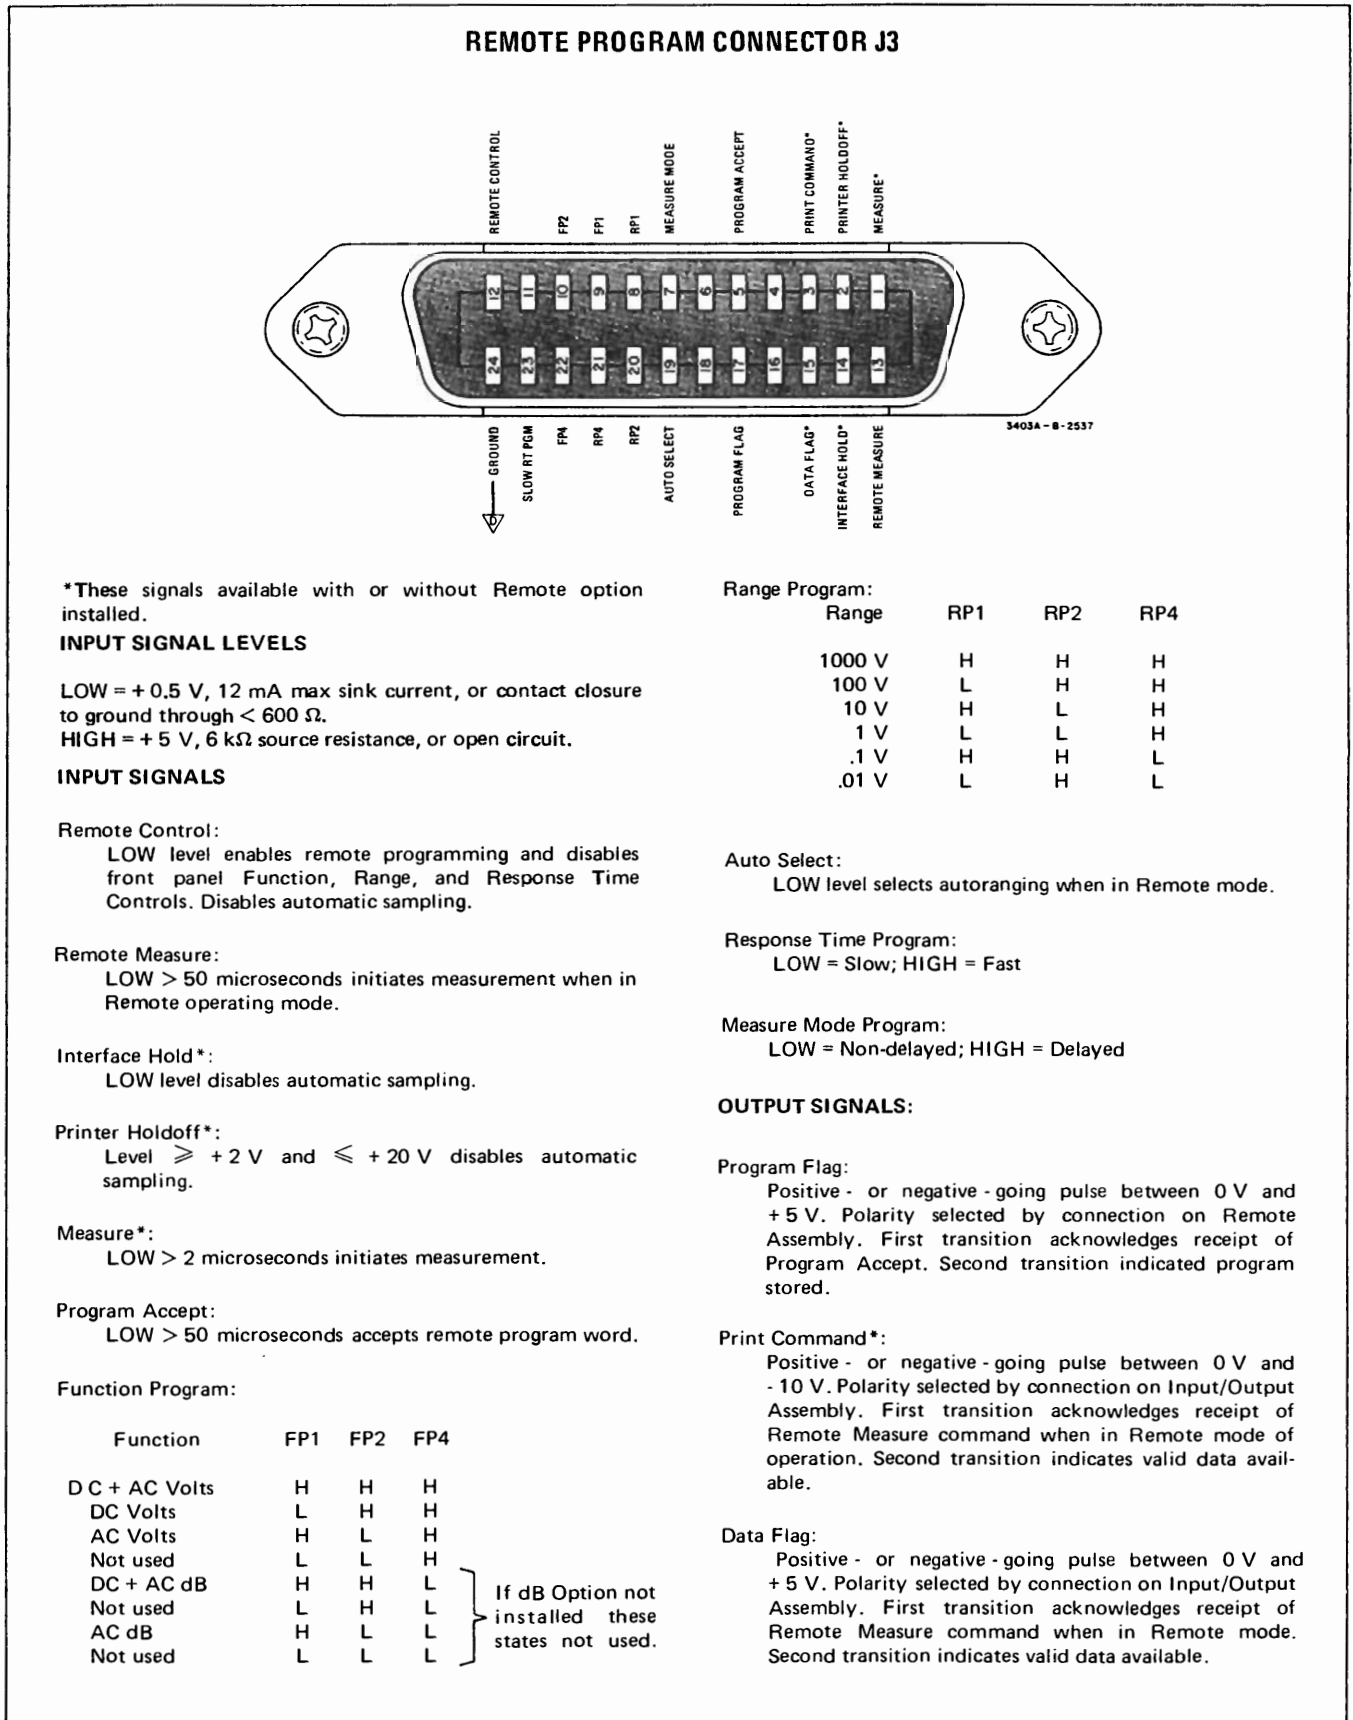

Figure 2-4. Remote Program Connector J3.
2-29. Option 003 permits programming of function, range, autorange and response time. Lines are also provided for remote control of sampling. Figure 2-4 shows the Remote Program Connector J3 and gives required interface information. The mating connector for J3 is -hp- Part No. 1251-0293 (Amphenol No. 57-30240).
3-24. **Non-Delayed Measure Mode.** The non-delayed mode must be programmed by a LOW signal at the Measure Mode connection, J3 pin 7. See Figure 2-4 and Paragraph 3-51. In this mode of operation, a Remote Measure command (LOW > 50 μs at the Remote Measure input of either J2 or J3) initiates a measurement within a few microseconds.
3-25. **Delayed Measure Mode.** A HIGH signal (or open circuit) at the Measure Mode connection, J3 Pin 7, selects the delayed measure mode of operation. In this mode, the internal Measure command (A141C11 pin 8) is delayed for a length of time determined by the 3403C response time programmed. See Figure 2-4 and Paragraph 3-51. If Fast
**3-39. Coded Data.** The Model 3403C equipped with a Digital Output option provides 7 columns of 1-2-4-8 coded BCD information, LOW state true. LOW = < +0.5 V, 12 mA maximum sink current; HIGH = +5 V, 6 kΩ source resistance. In addition to measurement magnitude, coded output information includes range, function, polarity, and out-of-range conditions. Figure 2-4 shows the print codes for a standard -hp- 5050B print wheel, -1248.